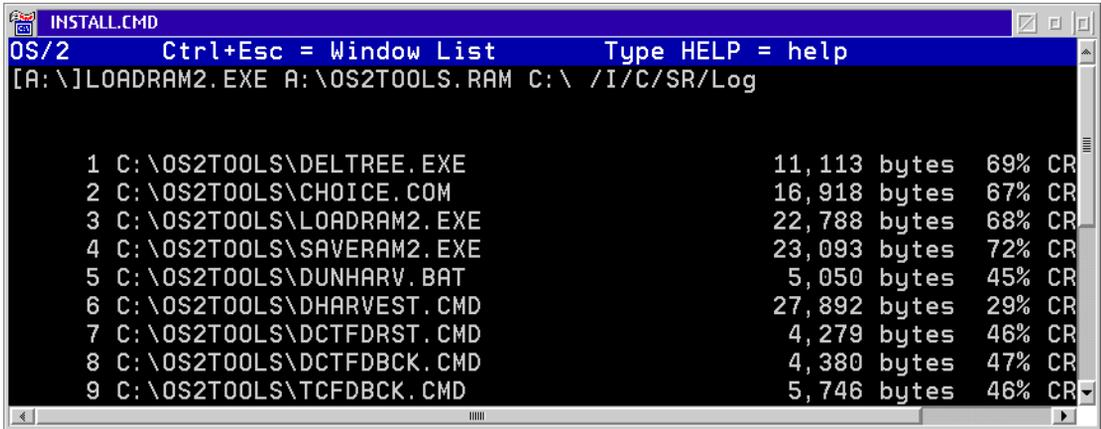

Figure 58 **INSTALL.CMD Window**
- Double-click the *INSTALL.CMD* icon. The *INSTALL.CMD* window displays (Figure 58), writes installation scripts to the *C:\OS2TOOLS* directory on the console hard drive, and creates an *OS2TOOLS.LOG* file (with icon) at the *Drive A - Icon View*.